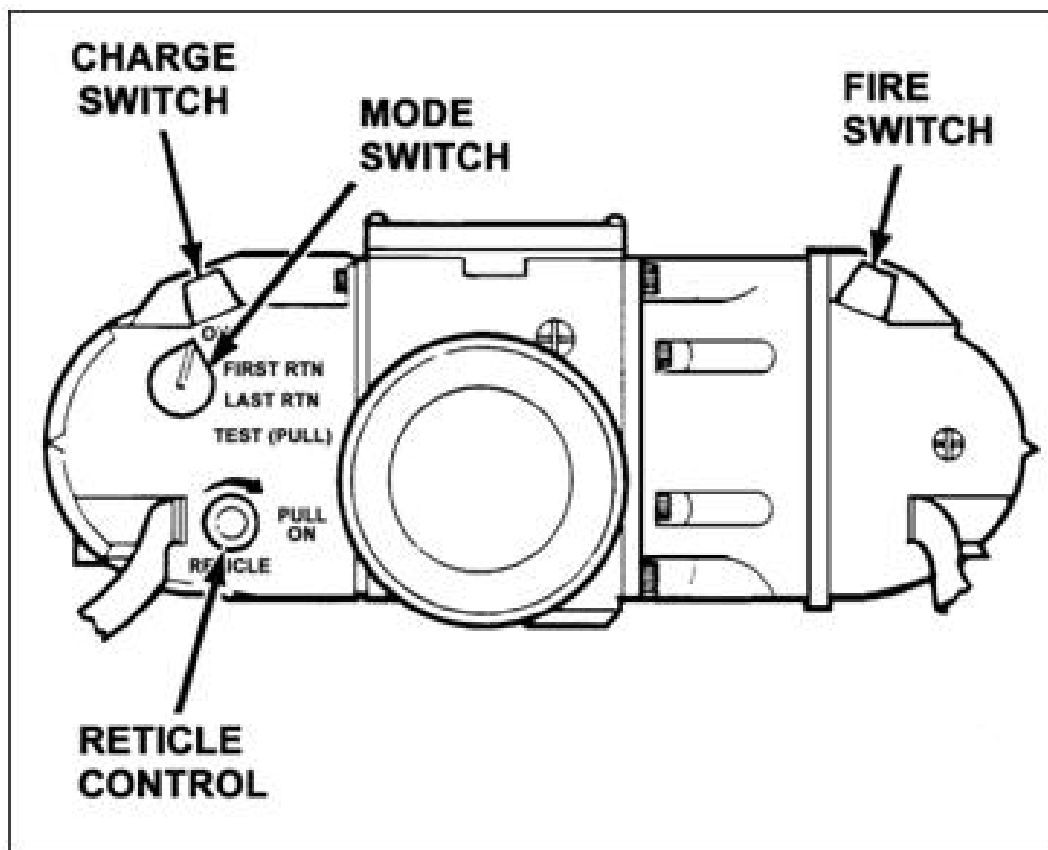

Figure 1. MELIOS controls.
a. Ensure the mode switch is in the OFF position (Figure1).